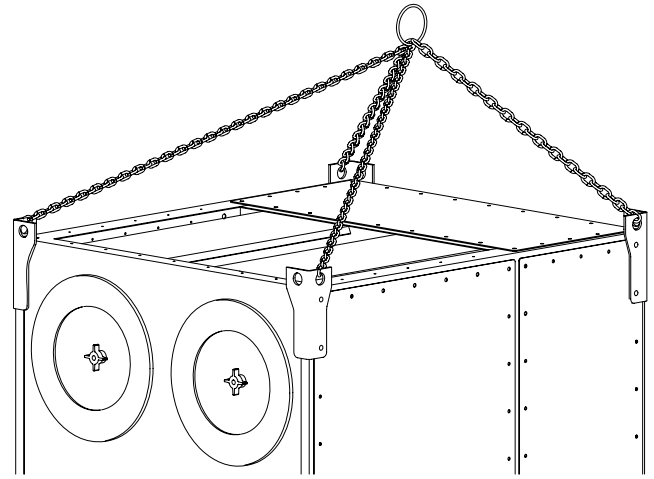

FIGURE 1
2. Lift the unit with a lift truck or overhead crane using the four lifting lugs located at the corners of the unit (see Figure 1).